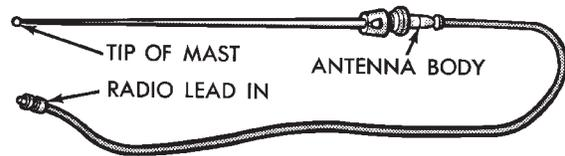

Fig. 14 Antenna Bench Test Points
- (1) Continuity should be present between the tip of the mast and radio end pin (Fig. 14 and 15).
- (2) No continuity should be observed or a very high resistance of several megohms between the ground shell of the connector and radio end pin.
- (3) Continuity should be observed between the ground shell of the connector and the mounting hardware.